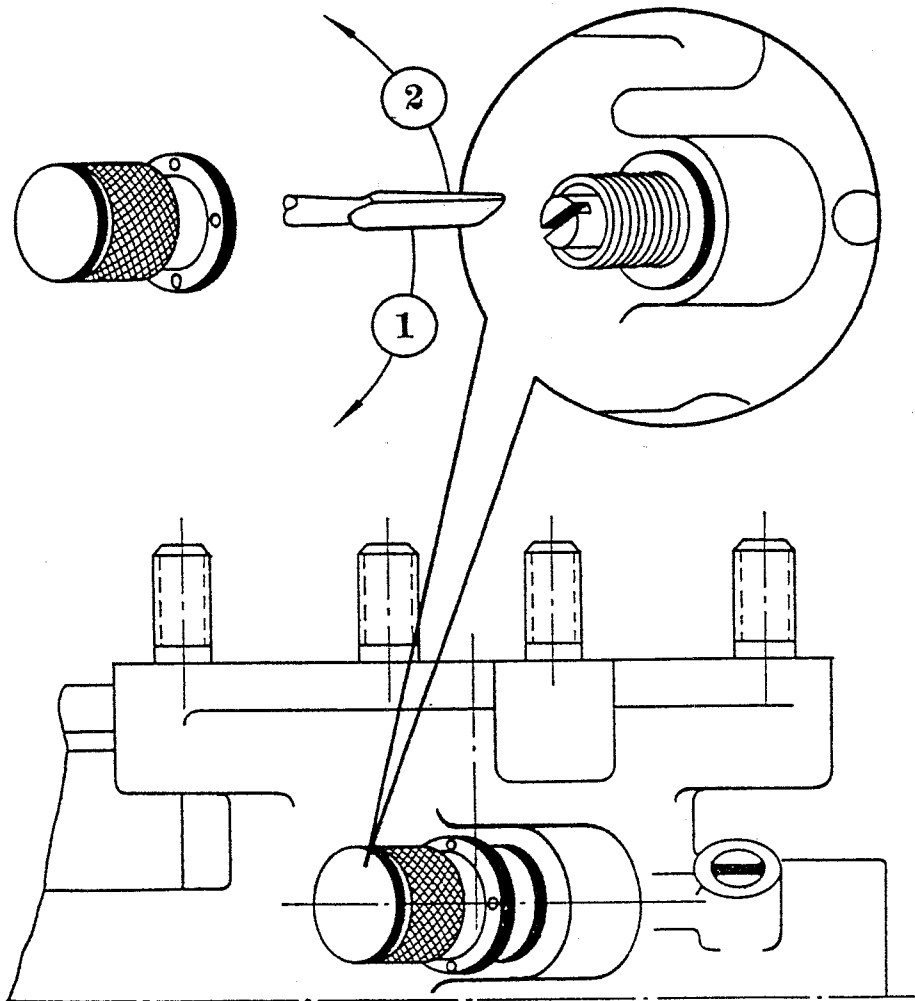

Fig. 5 Scheme of Adjusting the Idling Mixture Ratio
- (2) Depreservation and inspection of the carburetor.
(3) The carburetor adjusting.
a. The idling mixture ratio may be adjusted by means of the idling needle (Fig.5).